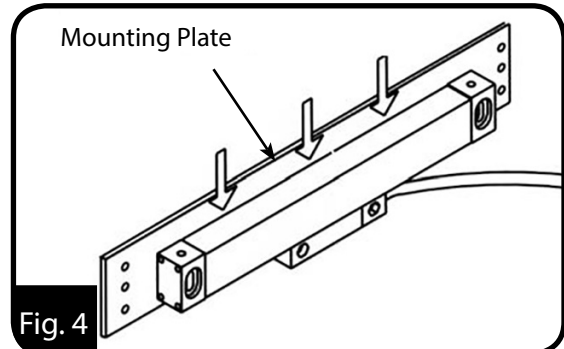

Fig. 4
- In cases where machined flat surfaces are not available, optional backing plates should be used to provide a flat datum for the installation. (Fig. 4)